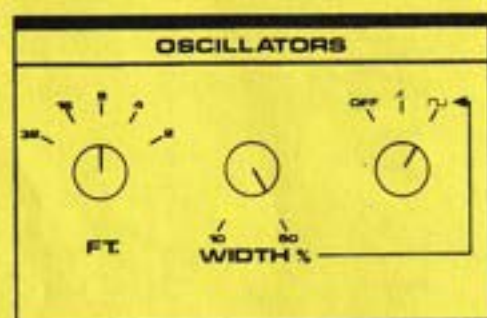

Fig. 2 OSCILLATOR POSITIONS
The three-position WAVESHAPE selector (8) is used to switch the oscillator off or to give sawtooth or rectangular waveshapes. These waveshapes are shown in Figure 2.